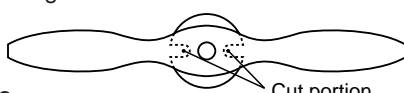

Fig.2
- \* Because of the above conditions the propeller should be mounted to the hub as shown in (Fig. 2) and quickly flipped within the range of about 180° from the horizontal position.